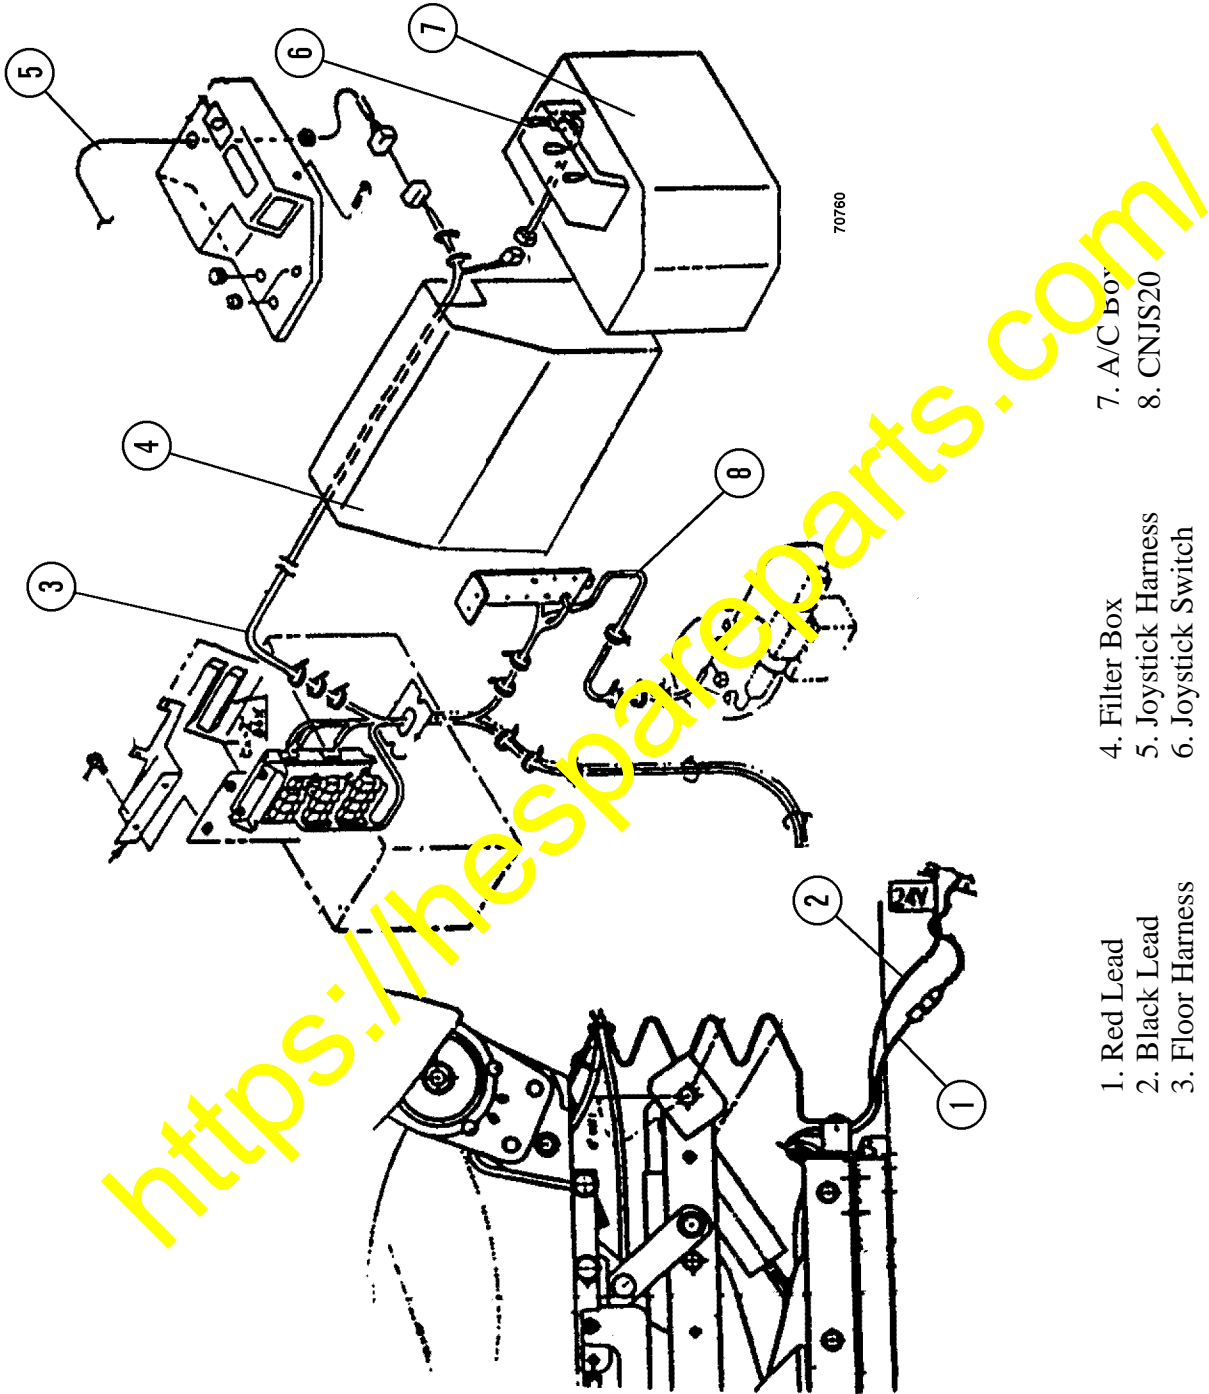

FIGURE 8. WIRING INSTALLATION
22. Attach connector (08021-00400) to red lead (1, Figure 8) and terminal (08021-10108) to black lead (2).
23. Connect the two leads from the operator's seat to CNJS19 and CN280 at connector CNJS20 (8).